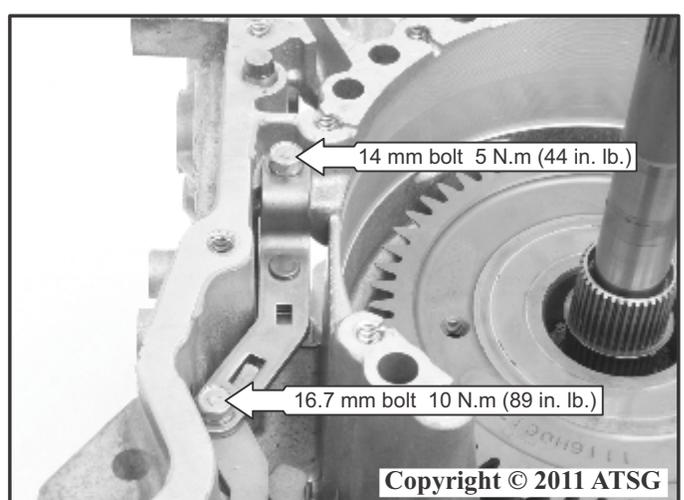

Figure 235
56. Install the manual valve detent lever spring as shown in Figure 235.
57. Install the 14 mm and the 16.7 mm manual valve detent lever spring retaining bolts as shown in Figure 235.
58. Torque the 14 mm bolt to *5 N.m (44 in. lb.)* as shown in Figure 235.
59. Torque the 16.7 mm bolt to *10 N.m (89 in. lb.)* as shown in Figure 235.